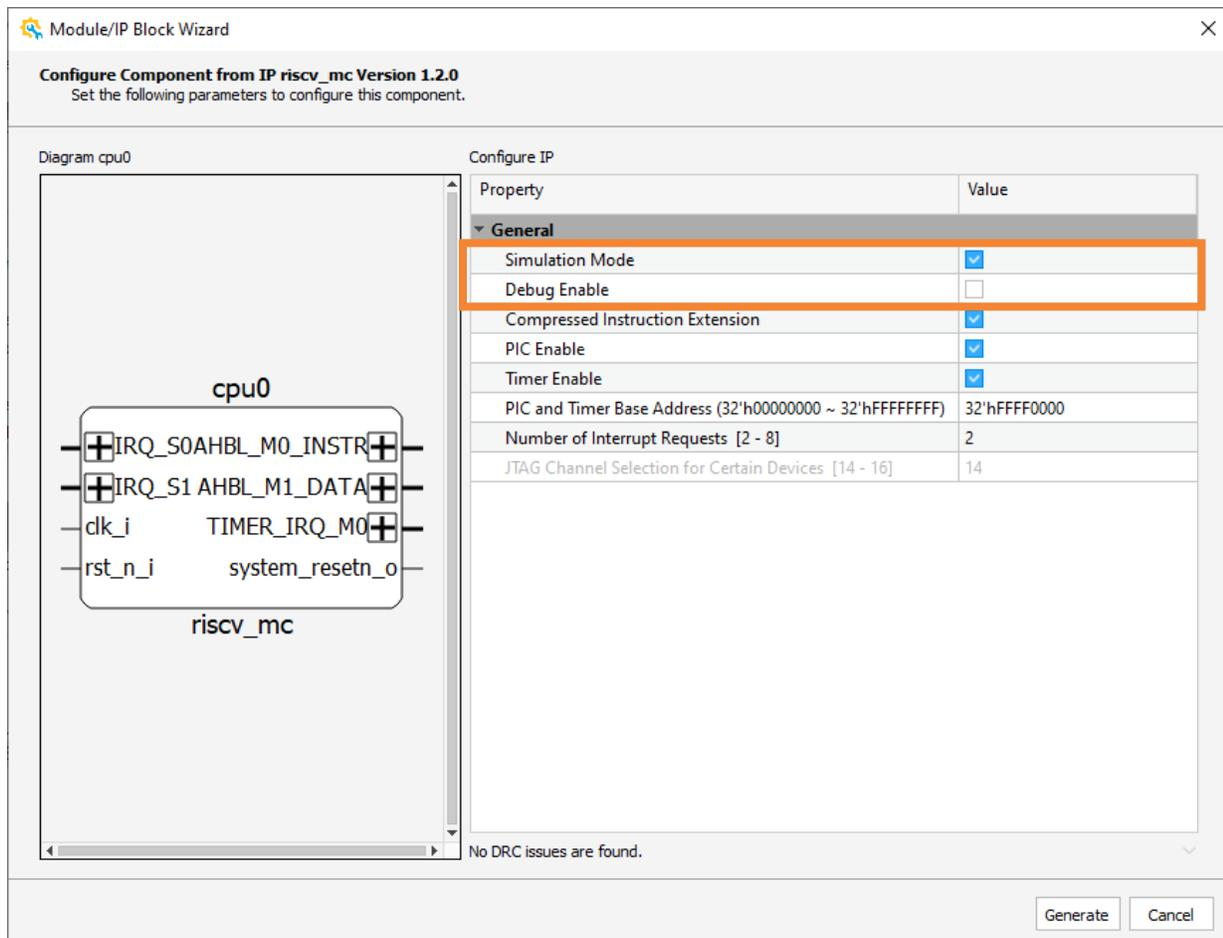

Figure 3.28. Configure Module RISC-V MC
- Enable the checkbox for **Simulation Mode**, and disable the checkbox for **Debug Enable** for *RISC-V MC* IP module in the **General** area (Figure 3.28).